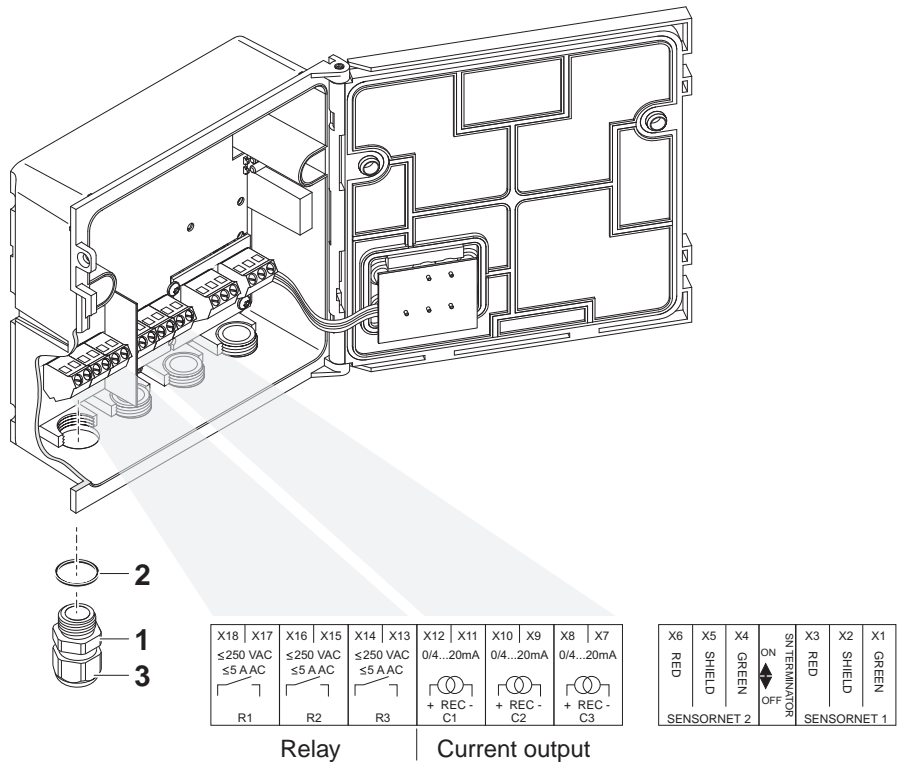

Fig. 3-1 Terminal strip with the relay and current connections
2	Screw the cable gland (pos. 1 in Fig. 3-1) with the sealing ring (pos. 2) into the module housing.
3	Loosen the coupling ring (pos. 3 in Fig. 3-1).
6	Tighten the coupling ring (pos. 3 in Fig. 3-1).